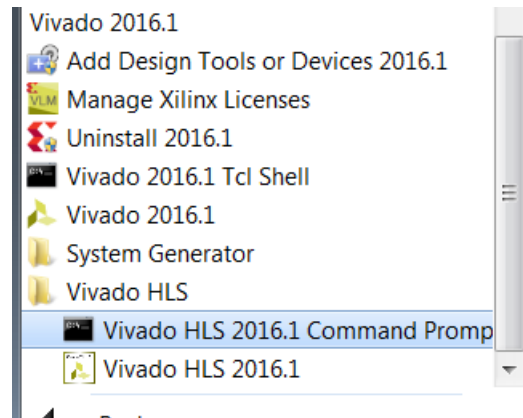

Figure 7-1: Vivado HLS Command Prompt
- On Windows use **Start > All Programs > Xilinx Design Tools > Vivado 2016.1 > Vivado HLS > Vivado HLS 2016.1 Command Prompt** (Figure 7-1).